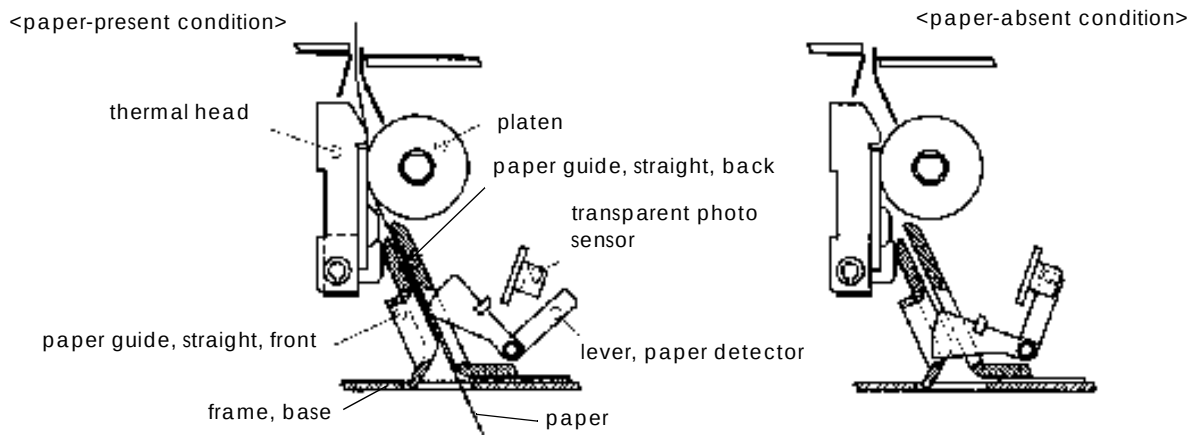
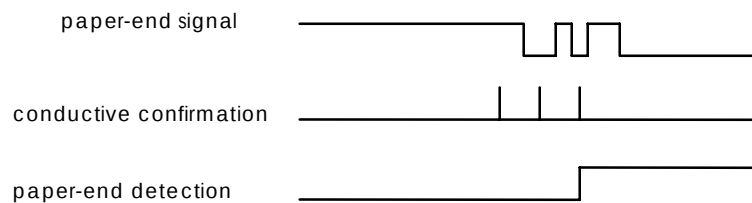

Figure 2-11 Paper-end detector mechanism
Figure 2-12 Paper-end detector operation
The **transparent photo** sensor is in a high state (HI) when the paper is present, and in a low state (LOW) when the paper is not present because the **lever, paper detector** blocks light to the sensor. When the end of the thermal paper passes through the paper guide, the **lever, paper detector** operates as shown in Figure 2-11. At this time, the output level from the **transparent photo sensor** varies as shown in Figure 2-12, then the absence of paper is detected. When the semi-autoloading function is used, the insertion of paper changes the status from “no paper” to “paper.” Since the output level changes from LOW to HI, the status changes to “paper”; then the semi-autoloading function is initiated.